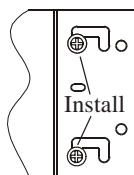

Figure 9
- Position the clamp towards the center of the bracket with the screw heads in the "Install" position. Refer to figure 9.
without compressing the dry wall. Refer to figures 9 and 12.